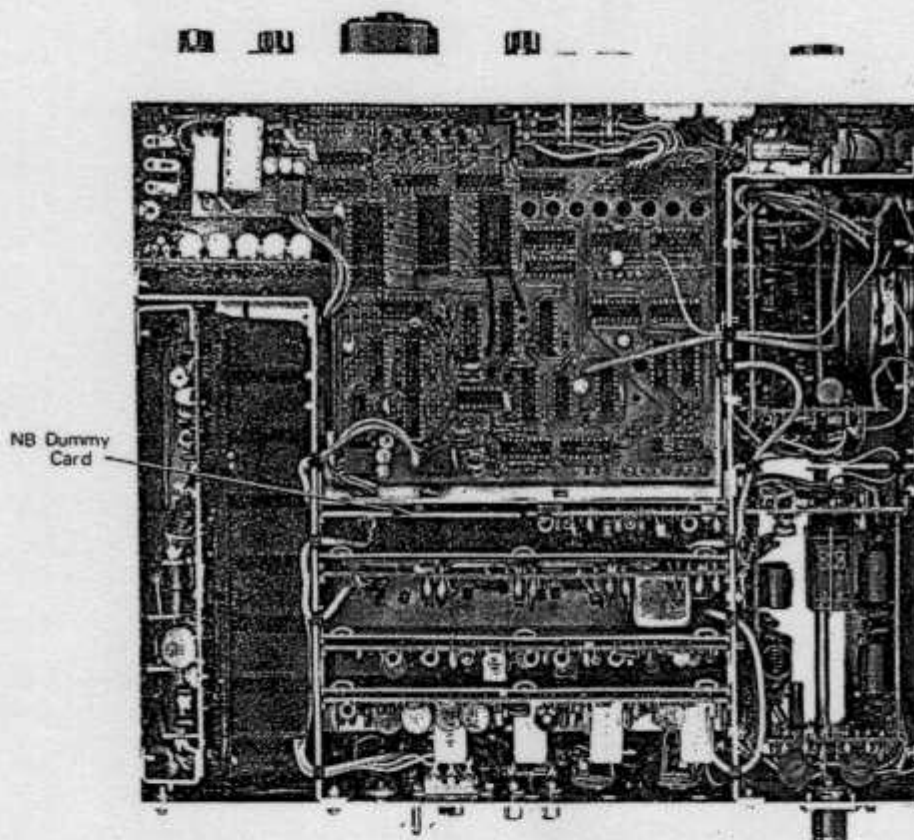

Figure 2—TR-7 Top View
- 4) Refer to figure 2 and remove the noise blanker dummy card as follows: